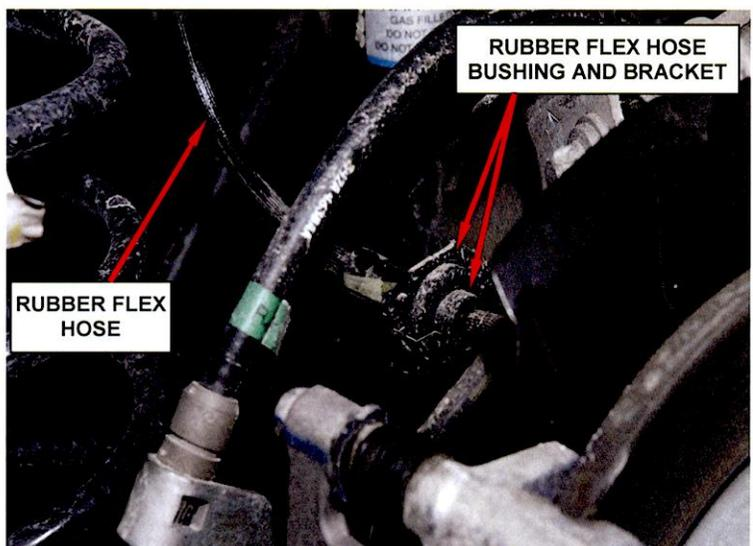

Figure 15 – Hose Guide and Bracket
4. Disconnect the rubber flex hose bushing from the hose guide bracket (Figure 15).